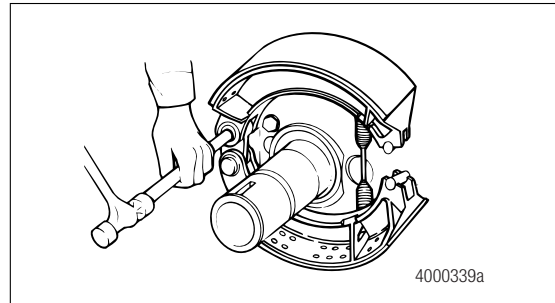

Figure 3.8
2. Use a brass drift to remove the top anchor pin. Figure 3.8.